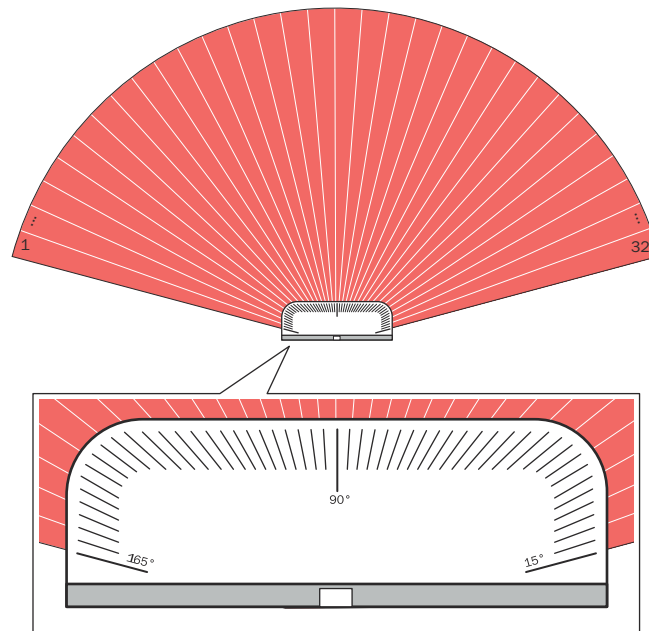

Figure 4: Detection area consisting of 32 segments
The safe multibeam scanner uses 8 geometrically arranged sensor modules to build up a gapless detection area. Each sensor module has its own light source that emits a light pulse. The light pulse of each sensor module is divided into 4 segments, so the detection range of the safe multibeam scanner consists of 32 segments. The 32 segments are numbered from left (1) to right (32) (when viewing the sensor from above, see figure 4, page 14).